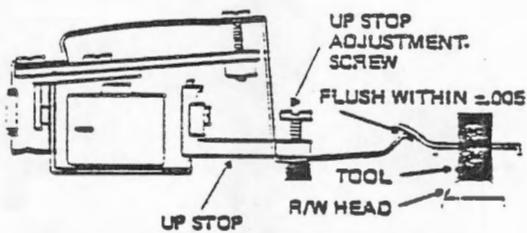

FIGURE 2 HEAD LOAD ACTUATOR UPSTOP ADJUSTMENT
- h. Adjust up stop on actuator so that bail just touches Head Load Arm or has .005" clearance or lifts Load Arm .005". Reference Figure 2.